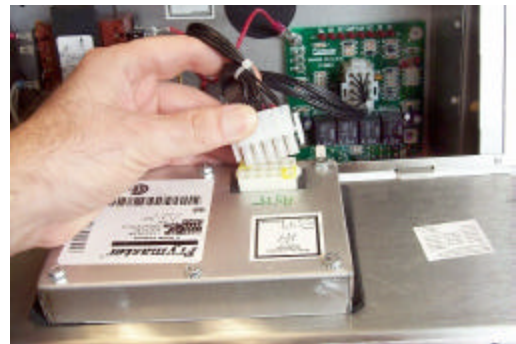

Fig: 10-1
5. Unplug the wiring harness from the back of the controller. **Fig: 10-1**
3. Unplug the wire harness from the interface board. **Fig 10-1.** Remove all wiring from the interface board, carefully marking wires for correct reattachment.